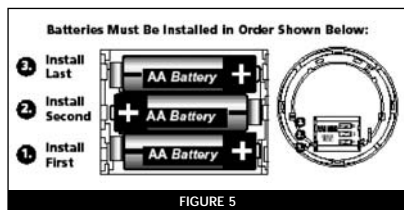

FIGURE 5
- Batteries must be installed in the sequence shown (see Figure 5). If batteries seem difficult to install, they're not being installed in the proper sequence.